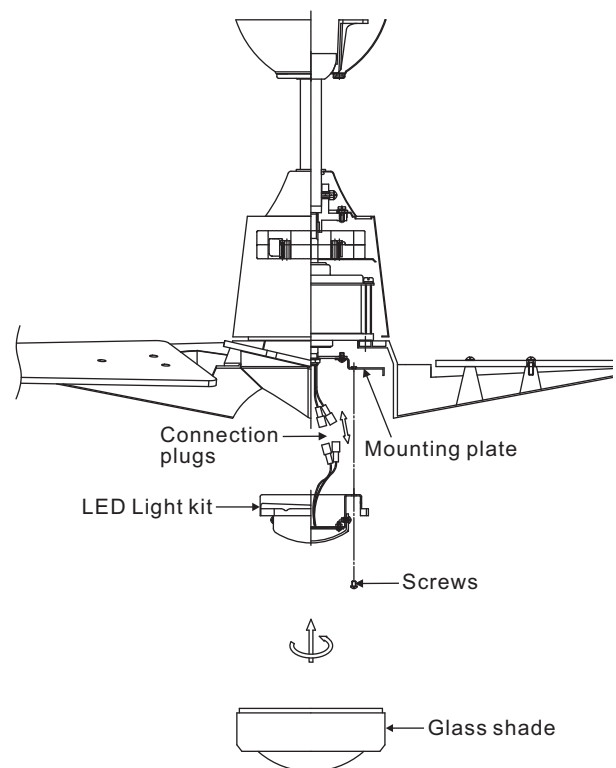

Figure 14
Step 1. Remove the 1 of 3 screws from the posts of the mounting plate and keep it for future use. Loosen the other 2 screws. (Do not remove) (Fig. 14)
Step 3. Place the key holes in the LED light kit over the two screws previously loosened from the mounting plate. Turn the LED light kit until the LED light kit locks in place at the narrow section of the key holes. (Fig. 14)
Step 4. Securely tighten the two light kit mounting screws previously loosened and the one previously removed. (Fig. 14)
Step 5. Raise glass shade up against the LED light kit, and secure it to fan by turning glass shade clockwise until snug. DO NOT OVERTIGHTEN. (Fig. 14)